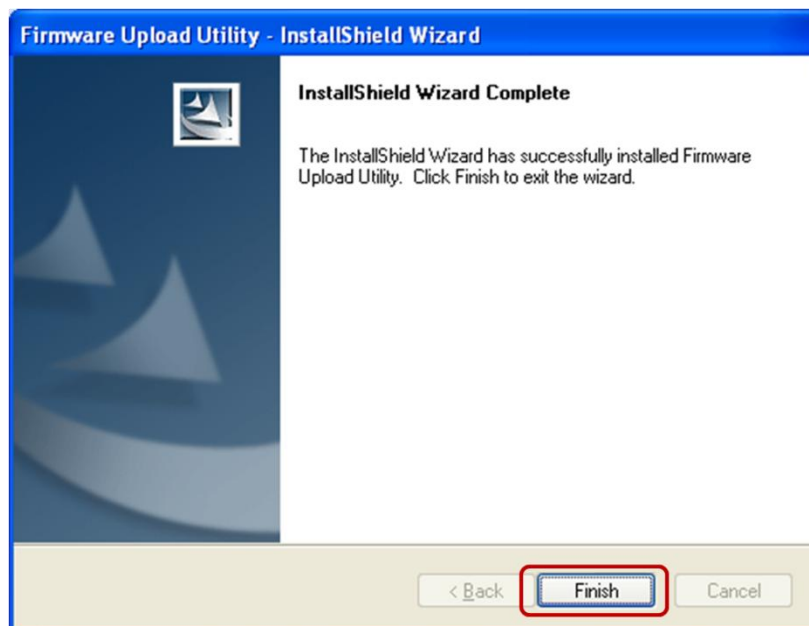

Figure 6
7. Select the **Finish** button to complete the installation (Figure 6).